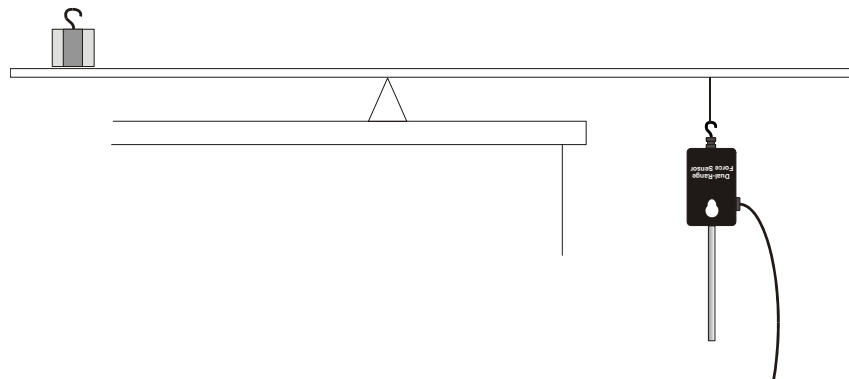

Figure 2: Using the Dual-Range Force Sensor
Such a first class lever is shown in Figure 2 with the indicated mass exerting a ccw (counter-clockwise) torque about the pivot point or fulcrum and the force sensor measuring the resulting force that creates a balancing cw (clockwise) torque with the lever bar maintaining a horizontal orientation and being in rotational equilibrium.
Based on Figure 2, consider the distance from the fulcrum to the force sensor as effort distance r_1 , and the measured force F_1 (indicated by the force sensor) and the distance from the fulcrum to the 0.500kg mass as resistance distance r_2 with the weight of the mass as F_2 . The torque exerted by the force sensor can then be expressed as, $\tau_{cw}=r_1F_1$ and the torque exerted by the 0.500kg mass can be expressed as $\tau_{ccw}=r_2F_2$.
1. Place a fulcrum near the edge of your lab table. Balance the middle (50-cm position) of a meter stick edgewise vertical on the fulcrum as shown in Figure 2.
- c. Attach the Dual-Range Force Sensor (Figure 2).